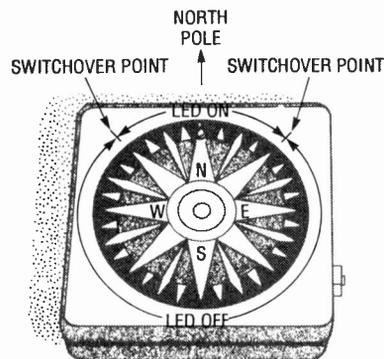

FIG. 3—THE LED WILL BE ILLUMINATED over a small arc as the compass is rotated full circle. True magnetic north is the position at the center of the arc.
As shown in Fig. 3, the LED will be illuminated over a small arc as the compass is rotated full circle, and will remain off over the rest of the 360-degree span. The sensitivity control (R9) allows adjustment of the width of
The full-wave voltage doubler shown in Fig. 3 has been redrawn for greater clarity; it has better regulation than a half-wave version, and is easier to filter. The circuit produces nearly double the peak AC voltage of 170 volts, or about 340 volts peak across  $R_L$ . For the first half-cycle (a), D2 is cut off and D1 conducts, so that  $V_{C1}$  equals approximately 170 volts DC. On the next half-cycle (b), the positive voltage is replaced by a negative voltage, so D2 conducts and D1 is cut off.  $R_L$  goes across C1 and C2 in series, effectively creating a doubled level of about 340 volts DC.
Unlike the half-wave voltage doubler, the full-wave version has two capacitors across  $R_L$  rather than one. Whereas C1 shown in Fig. 1 is cut off and unsupplied for half of every cycle, C1 and C2 in Fig. 3 are supplied on alternate half cycles. When the capacitor corresponding to the diode that's cut off discharges, it can only do so through the capacitor being supplied, slightly decreasing both its current and the maximum voltage it reaches.
**FIG. 3—FULL-WAVE VOLTAGE DOUBLER,** redrawn for greater clarity. For the first half-cycle (a), D2 is cut off and D1 conducts, producing about 170 volts DC across C1. On the next half-cycle (b), D2 conducts and D1 is cut off. The output voltage is now across C1 and C2 in series, doubling the level to about 340 volts DC.